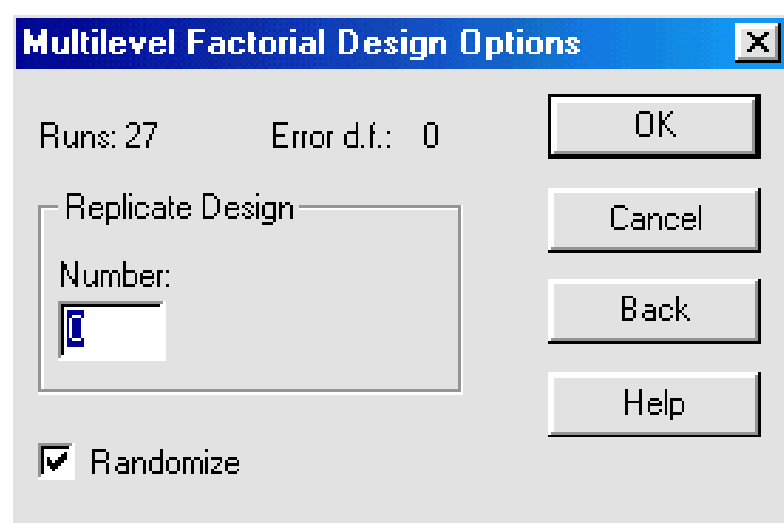

Figure 6-4. Multilevel Factorial Design Options Dialog Box
7. Click OK to display the Multilevel Factorial Design Options dialog box shown in Figure 6-4.
Use the *Multilevel Factorial Design Options* dialog box to make changes to the design. See Figure 6-4 for an example of this dialog box.